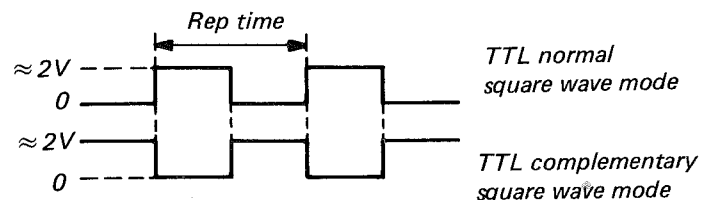

Fig. 6.5. Square wave.
- Observe one normal TTL pulse and its complement similar to fig. 6.5.